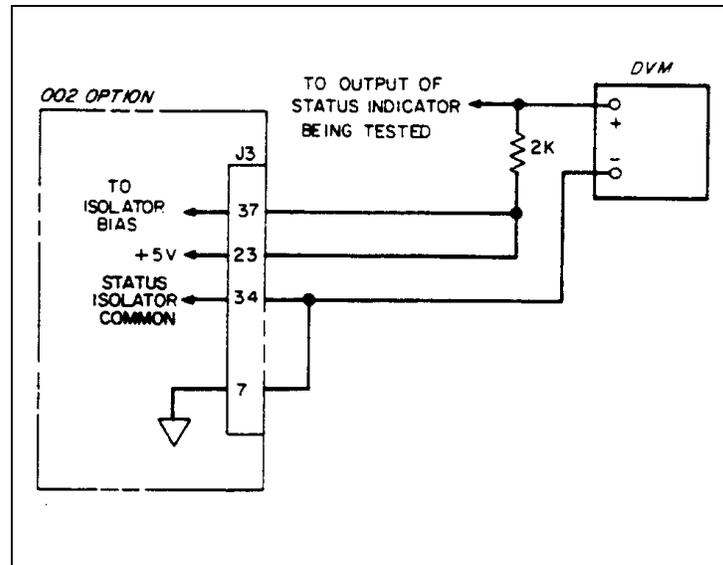

Figure A-13. Troubleshooting Status Indicators
Troubleshooting Status Indicators. The test set-up shown in Figure A-13 can be used to check each of the six status indicators. This set-up will temporarily defeat the isolation of the status lines. Before attempting to troubleshoot a status indicator, check for + 5V Bias for proper operation of the opto-couplers.
- Using test set-up, Figure A-13, connect to end of 2K Ω resistor to J3-36.
- Using test set-up, Figure A-13, connect top end of 2K Ω resistor to J3-35.
- Using test set-up, Figure A-13, connect top end of 2K Ω resistor to J3-17.
- Using test set-up, Figure A-13, connect to end of 2K Ω to J3-18.
- a. Using test set-up, Figure A-13, connect top end of 2K Ω resistor to J3-19.
- d. Using test set-up, Figure A-13, connect top end of 2K Ω resistor to J3-16.